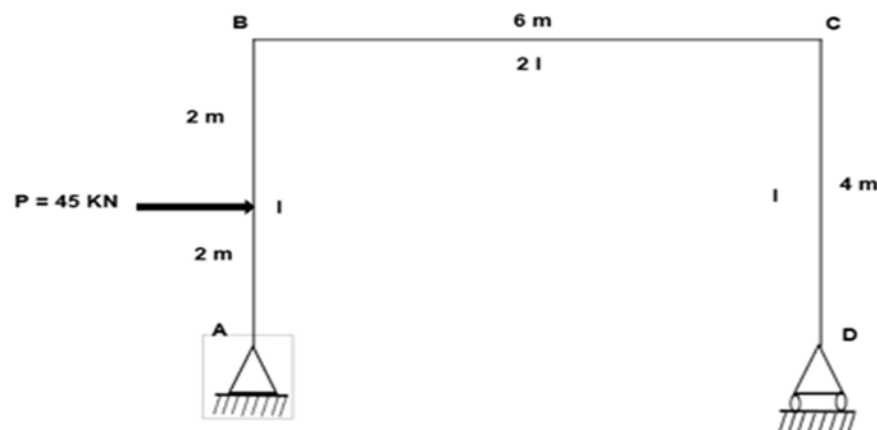

Fig.8
- b) Find the horizontal movement of the roller end D of the portal frame shown in Fig.8 Take  $E = 2 \times 10^8 \text{ kN/m}^2$  and  $I = 3 \times 10^4 \text{ m}^4$ . The moment of inertia of the column section is I while that of beam is 2I.